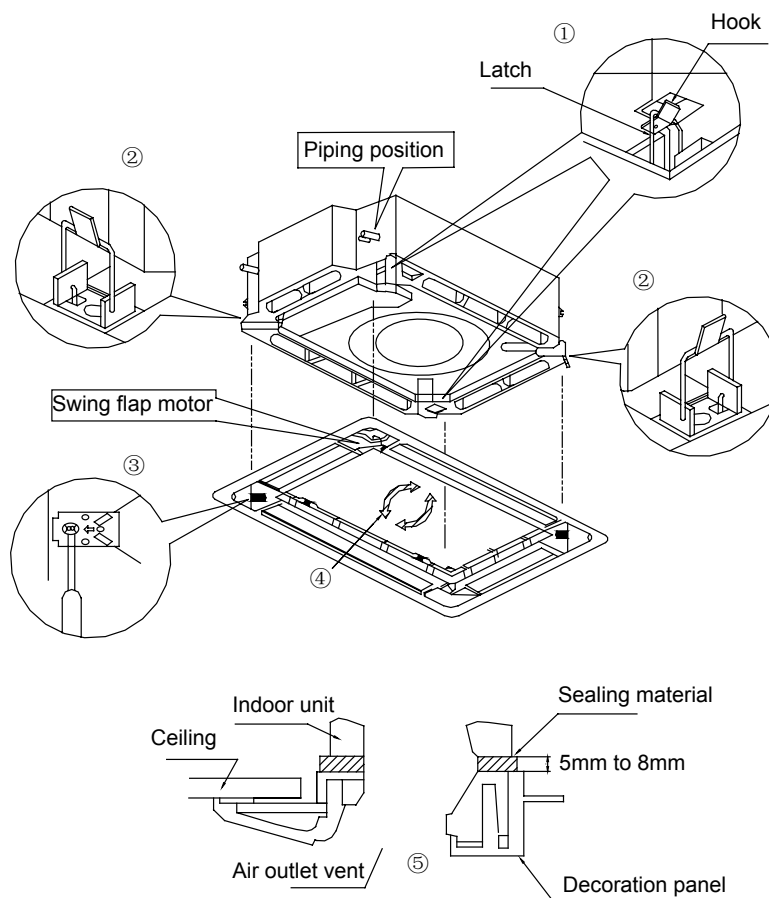

Fig. 11
- (1). Set the panel to the indoor unit body by matching the position of the swing flap motor of the panel to the piping position of the panel of the indoor unit as shown in Fig. 11.
- (2). Installation of the Panel
- 4). Adjust the panel by turning it toward the direction pointed by the arrow as shown in Fig. 11 so that the panel can match the ceiling very well.